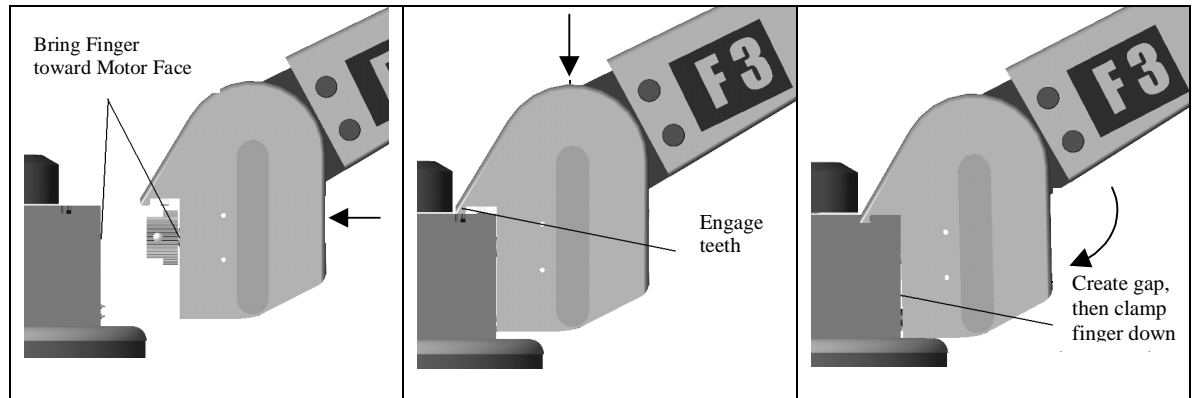

Figure 15 - Reattaching Fingers after Maintenance
8. Reset the fingertip position (see Step 6) and replace the finger onto its motor according to Figure 15, again taking great care not to damage the gold-contacts when seating the alignment teeth. The teeth must be fully seated into the alignment slots to ensure proper operation of the BarrettHand™.